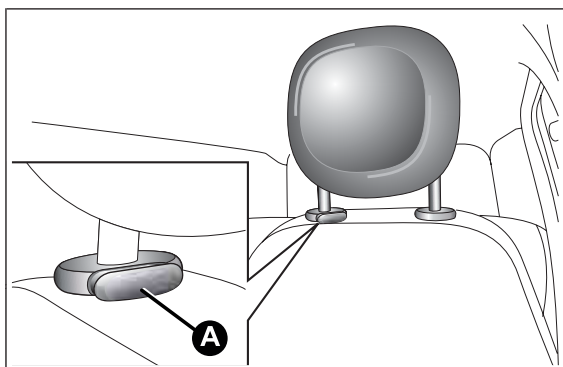

fig. 17
**Downwards adjustment:** press button A fig. 17 and lower the head restraint.